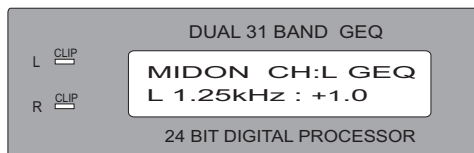

Fig.10 MIDION display
10. Hold button 6 for 3 seconds to display information as Fig. 10, hold button 6 again for longer time to display information as Fig. 11. During "MIDON", you are ready for real time MIDI control now.